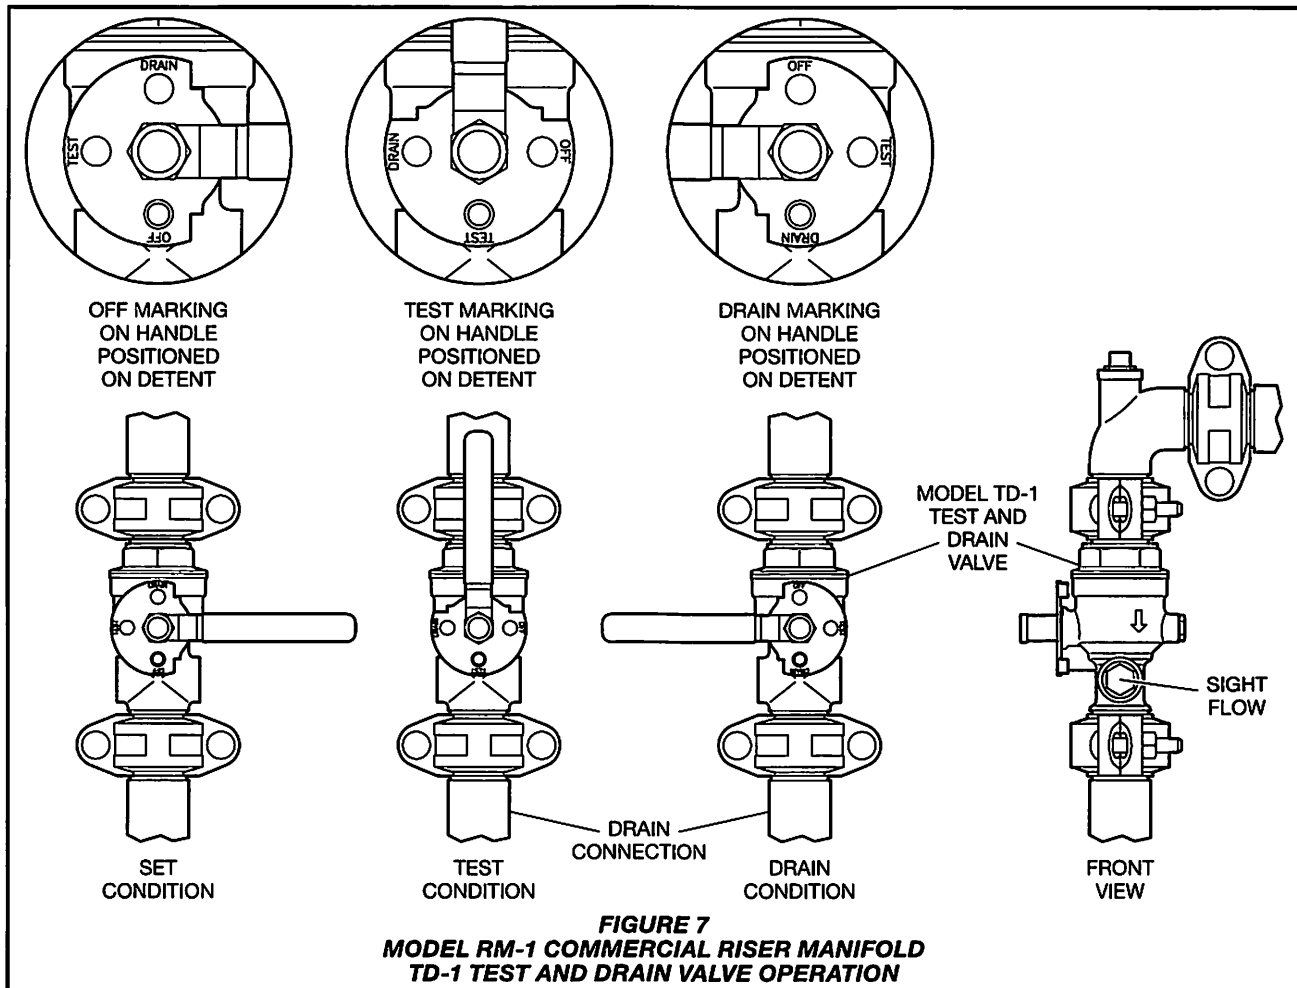

FIGURE 7
Step 1. Place the Model TD-1 Test and Drain Valve in the TEST position (Ref. Figure 7). On residential assemblies without a test orifice, temporarily install a test orifice in the drain outlet and fully open the Drain Valve. Make certain that drainage water will not cause any damage or injury.